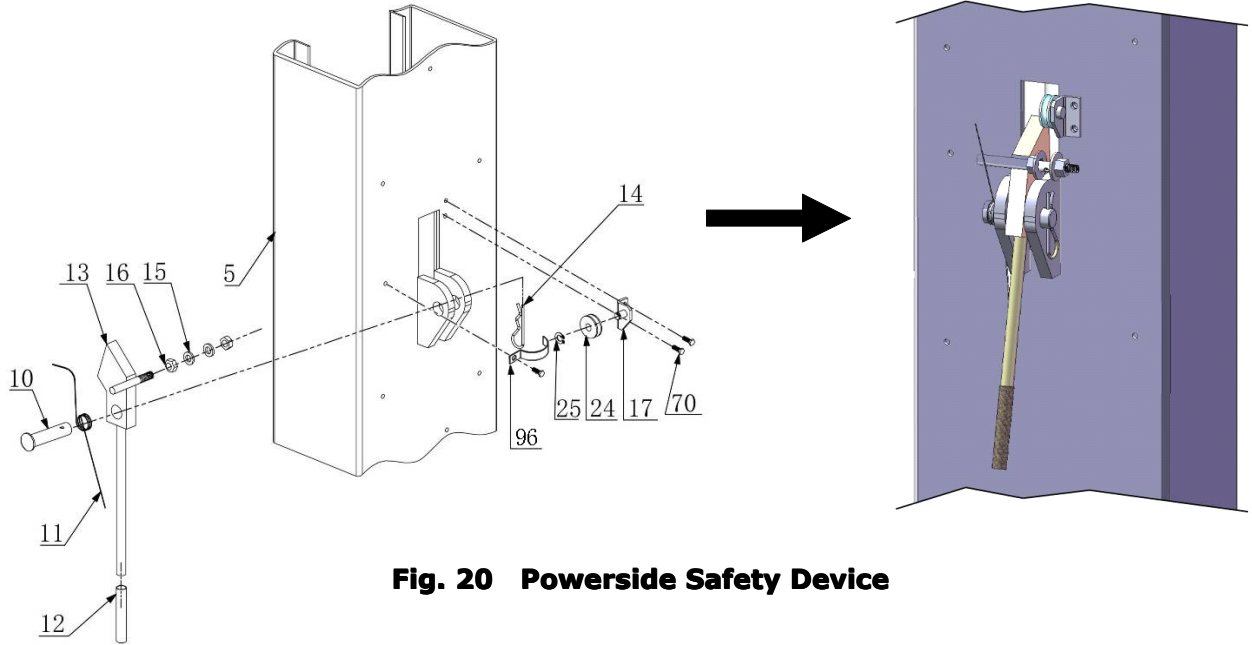
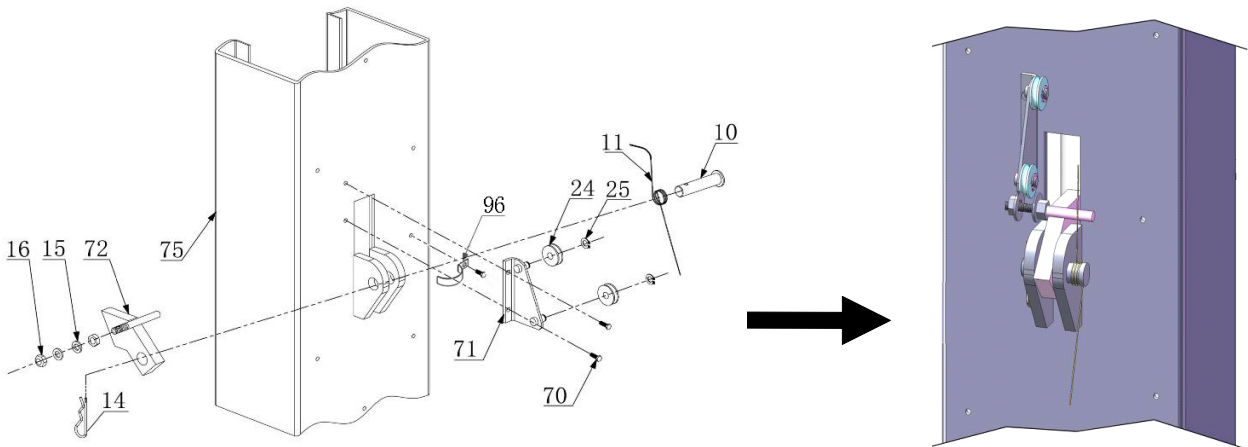

Fig. 20 Powerside Safety Device
Fig. 21 Offside Safety Device
I. Install safety device (See Fig. 20 & Fig. 21).